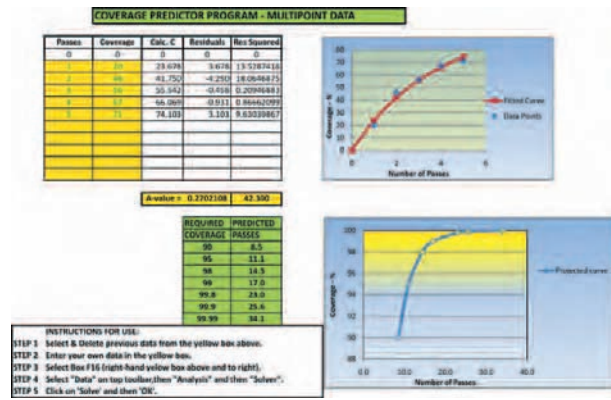

Fig.6 Worksheet of Coverage Predictor program using Multi-measurements.
peened progressively using an increasing number of, say, passes. We can then ‘best-fit’ these measurements to the exponential coverage curve - equation (11). The program is illustrated by the worksheet shown as fig.6. This includes two graphs – one of the data points and the corresponding best-fit curve and the other a complete curve based on the deduced ‘best’ value for **A**.